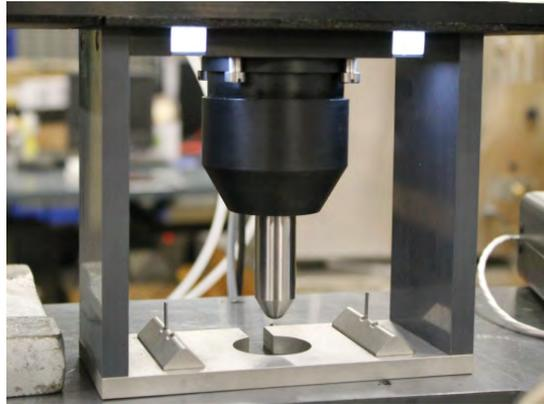

Figure D.6 - Load Nose with upper portion of Shroud attached to Load Cell
5. Once the load nose is secured, lift the upper portion of the shroud around it. Use the back two screws to guide it into place before tightening them and carefully screwing in the front two screws. See Figure D.6, p. 24.